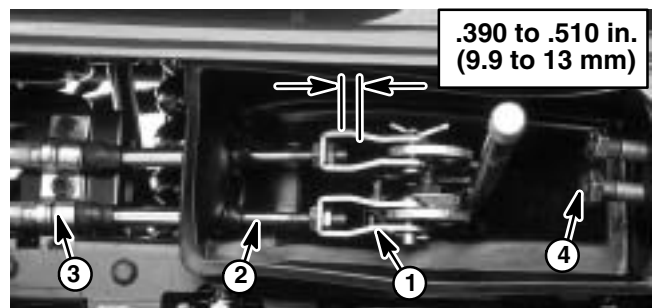

Figure 6
2. Install cable clevis on shift cable. Adjust cable clevis as shown in Figure 6. Tighten jam nut to secure clevis to cable.